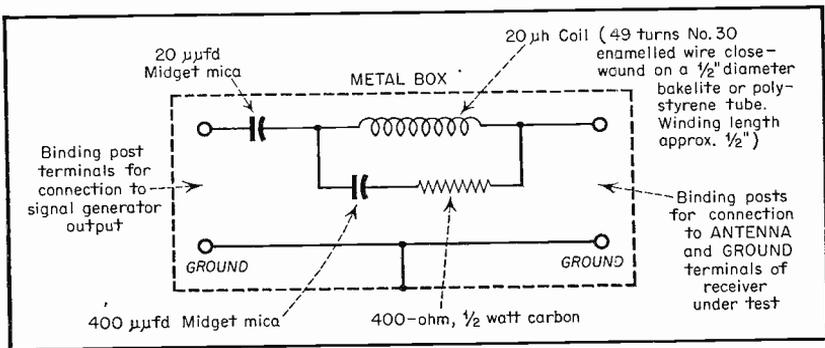
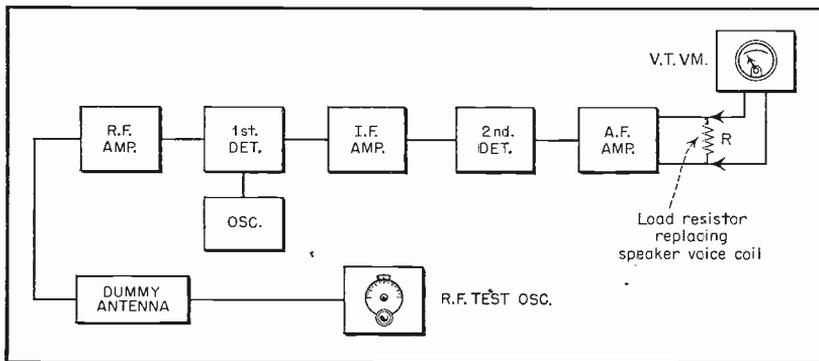

Fig. 1.
Fig. 7.
The instruments required for taking complete receiver performance data may be found in any well-equipped service shop. They are (1) r. f. test oscillator or signal generator, (2) variable-frequency audio test oscillator, and (3) a. c. vacuum-tube voltmeter. In addition to these instruments, a dummy antenna (see Figure 1) must be constructed by the reader. Also, a power-type load resistor will be needed for connection in place of the loudspeaker voice coil. Following is a discussion of the required characteristics of the instruments.
Dummy Antenna. A circuit diagram of the standard dummy antenna is given in Figure 1. The parts may be mounted on a sheet of insulating material, such as bakelite or polystyrene, and enclosed in a small metal box or can. Coaxial jacks and plugs may be
designed for connection to an external antenna, the dummy antenna (Figure 1) must be connected between the test oscillator and the input terminals of the receiver (see Figures 7 and 8). When the receiver is equipped with an
7. **Selectivity.** Use the arrangement shown in Figure 7. Tune the receiver to a **modulated** signal from the test oscillator, and advance the oscillator output until full rated output watts are read across load resistor R (see Test 2). Detune the oscillator below the receiver dial setting until a point is reached at which the voltmeter deflection falls to zero. Read the fre-
8. **Sensitivity.** Use the same arrangement, with a modulated signal, shown in Figure 7. Set the test oscillator signal to give full rated output watts, as read with the v. t. voltmeter (see Test 2), and at this point read the sensitivity directly in microvolts from the attenuator of the test oscillator.